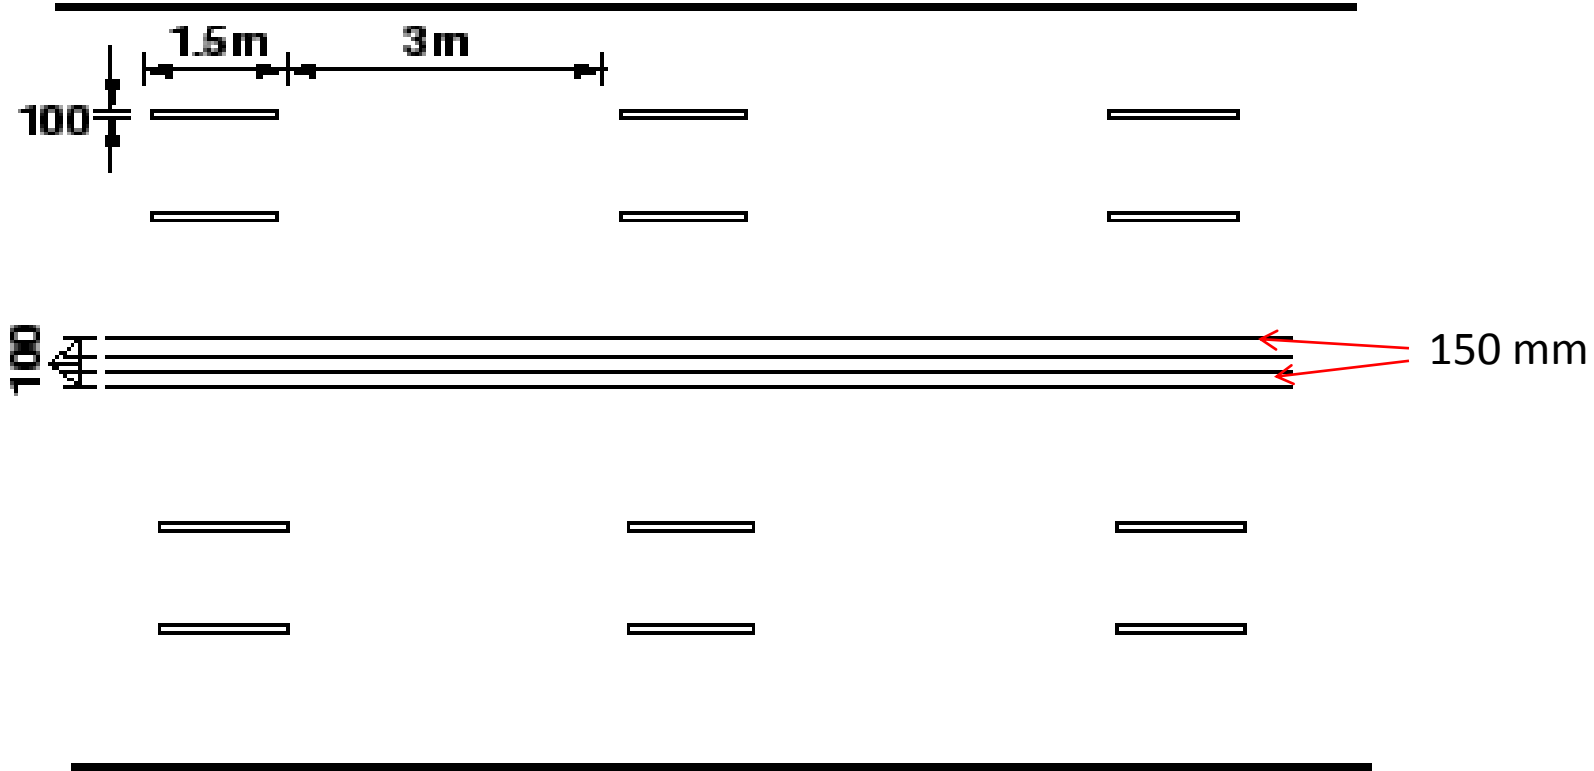

Figure 3: Double Solid Line for a 2 Lane Rd
- Double Solid Line of 100 mm wide, separated by a space of 100 mm as shown in figure 3.